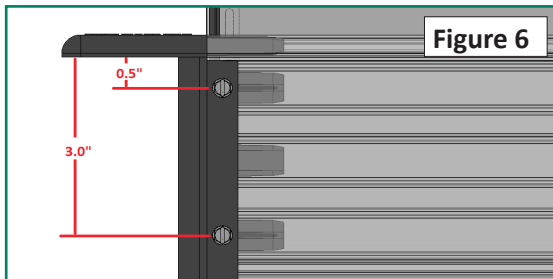

Figure 6
- Install #8 fasteners (VA319) through frame ends and frame angles using the approximate dimensions, (as shown in Figure 6 and locations shown in Figure 7), while holding the joint flush and square. These fasteners will keep the frame square and prevent air leaks between the door and the frame. The fasteners also hold the frame together during thermal expansion and contraction.